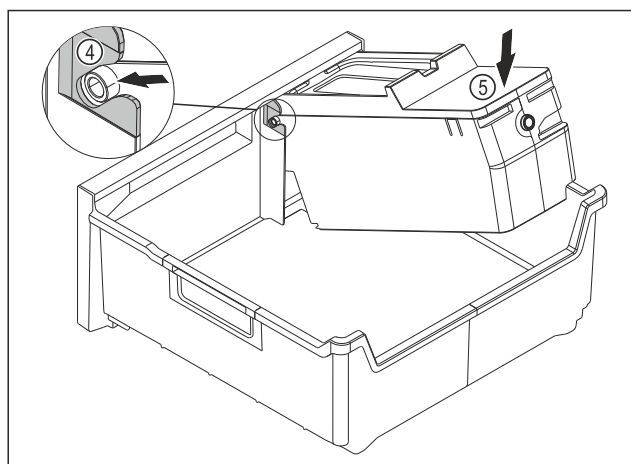

Fig. 149
- Installing the EasyTwist-Ice body: Push the axes for the EasyTwist-Ice body into the guides Fig. 149 (4).
- Press the EasyTwist-Ice body Fig. 149 (5) down at the back.